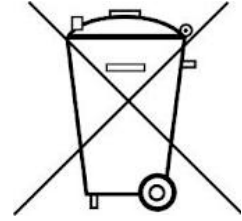

Fig. 2: Experiment set-up with Kundt's tube
- Place the microphone probes in the Kundt's tube and set up the apparatus. (see Fig. 2)